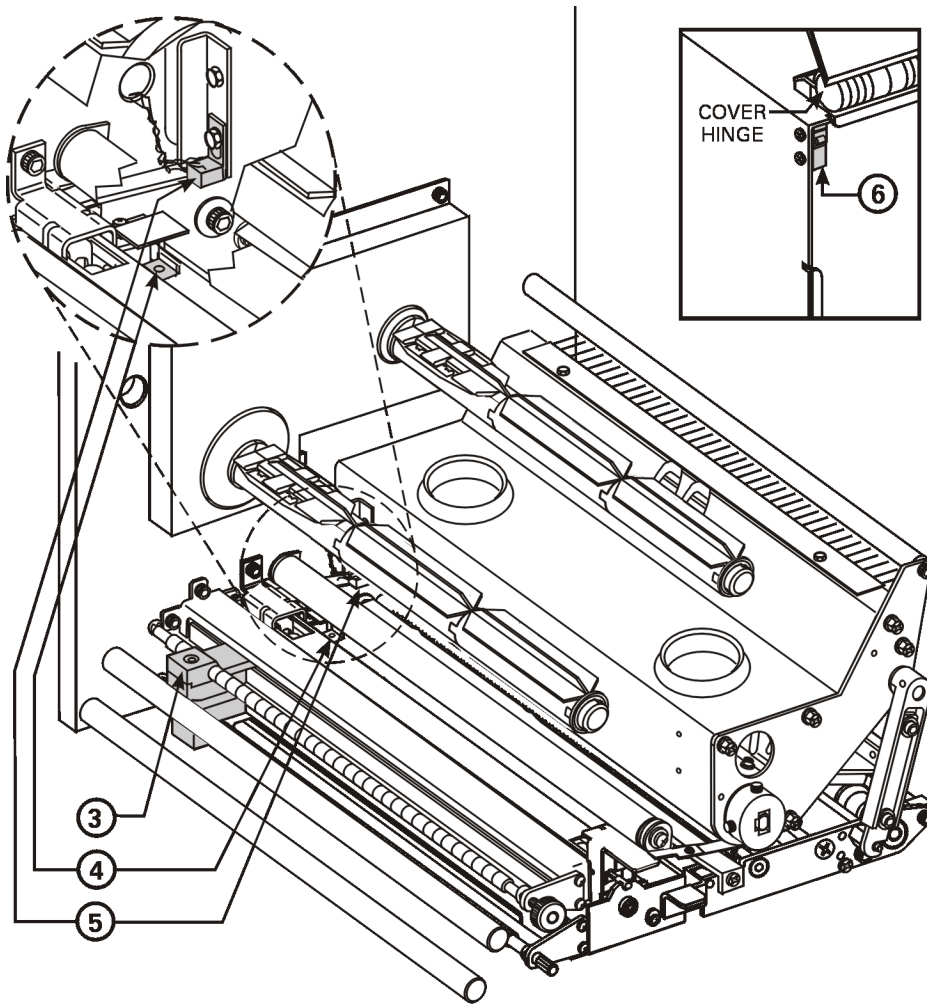
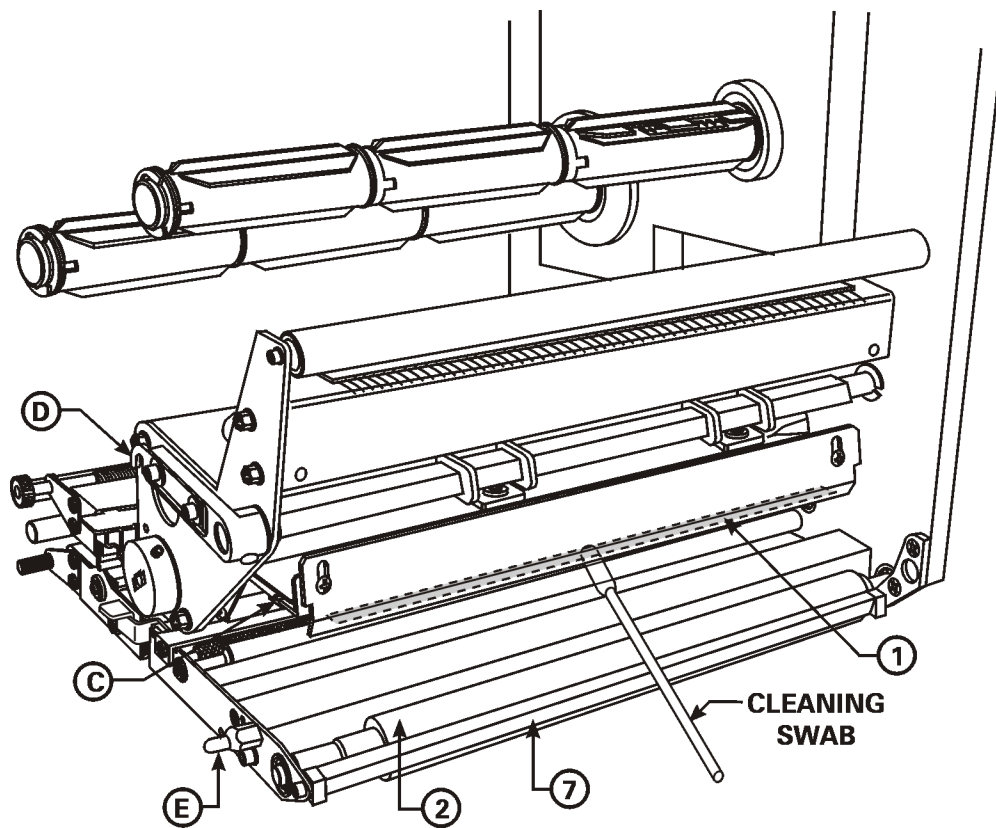

Figure 10. Sensor Locations (Right-Hand Unit Shown)
Figure 11. Print Engine Cleaning (Right-Hand Unit Shown)
See Figure 10 on page 44 and Figure 11 on page 45 for parts locations
To ensure proper operation of the print engine, all sensors should be cleaned on a regular basis. To locate the position of these sensors, refer to Figure 10 on page 44.
To clean the printhead and platen roller, refer to Figure 11 on page 45 and perform the following steps.
1. Open the printhead assembly (C) by lifting the printhead lock lever (D) upward away from the locking pin (E), and remove the media and ribbon.
2. Brush, vacuum, or air blow any accumulated lint and paper dust away from the rollers. It is good practice to clean the various media, ribbon, and door-open sensors at this time. See Figure 10 on page 44.
3. Use a cleaning swab saturated with alcohol and wipe the print elements from end to end. The print elements form the grayish/black strip (1) just behind the chrome strip on the underside of the printhead. Allow a few seconds for the alcohol to evaporate.
4. Use a lint-free cloth moistened with alcohol to clean the platen roller (2) and other rollers. Rotate the rollers while cleaning.